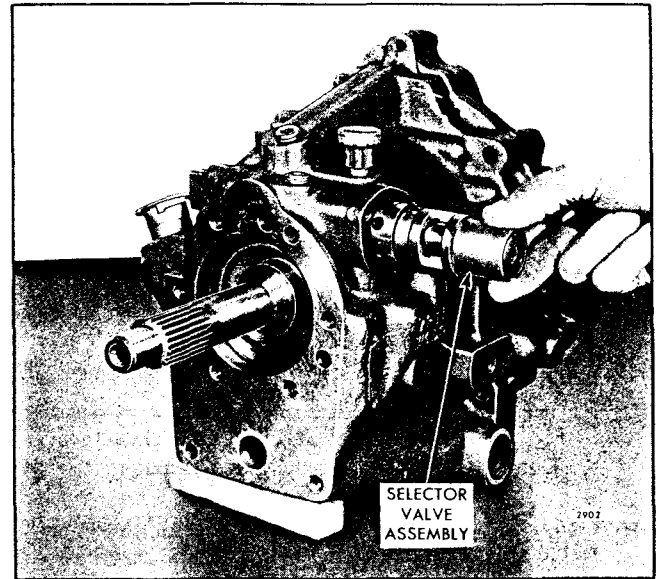

Fig. 88 - Installing Selector Valve Assembly in Gear Housing
- a. Lubricate the outside diameter of the selector valve and seal ring with engine oil, then insert the small or threaded end of the selector valve in the opening, on the right rear side of the gear housing as shown in Fig. 88, with the flat spot on the shoulder of the selector valve, at the threaded end, facing down toward the bottom of the gear housing. Push the selector valve straight into the gear housing until it contacts the shoulder in the housing.